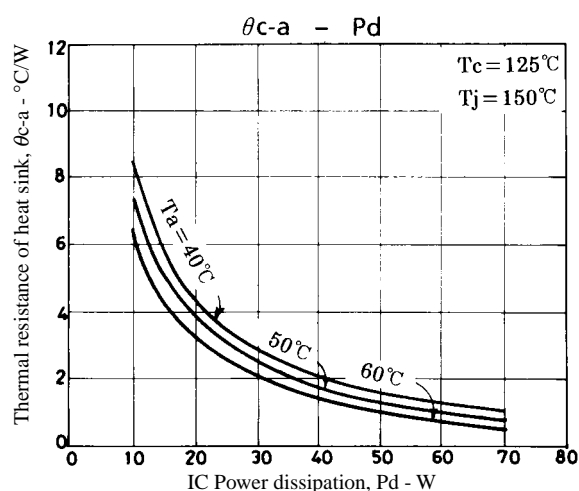

Figure 3. STK4192II $\theta_{c-a} - P_d$
Figure 3 shows the relation between P_d and θ_{c-a} given from (1) and (3) with T_a as a parameter.
The thermal resistance of a heat sink is obtained from Figure 3.